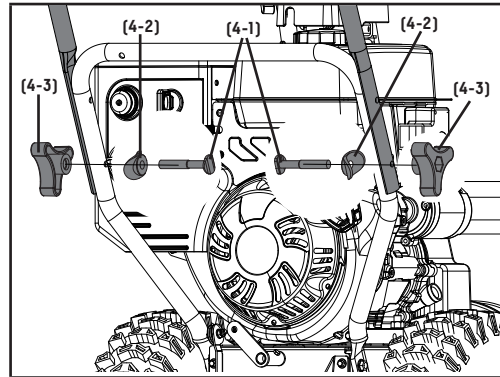

Figure 4
- Connect the upper handle and lower handle with 2 bolts (4-1), 2 washers (4-2) and 2 locking knobs (4-3) only on the bottom – keep them loose so you can fold the handle down in the next step (Fig. 4).